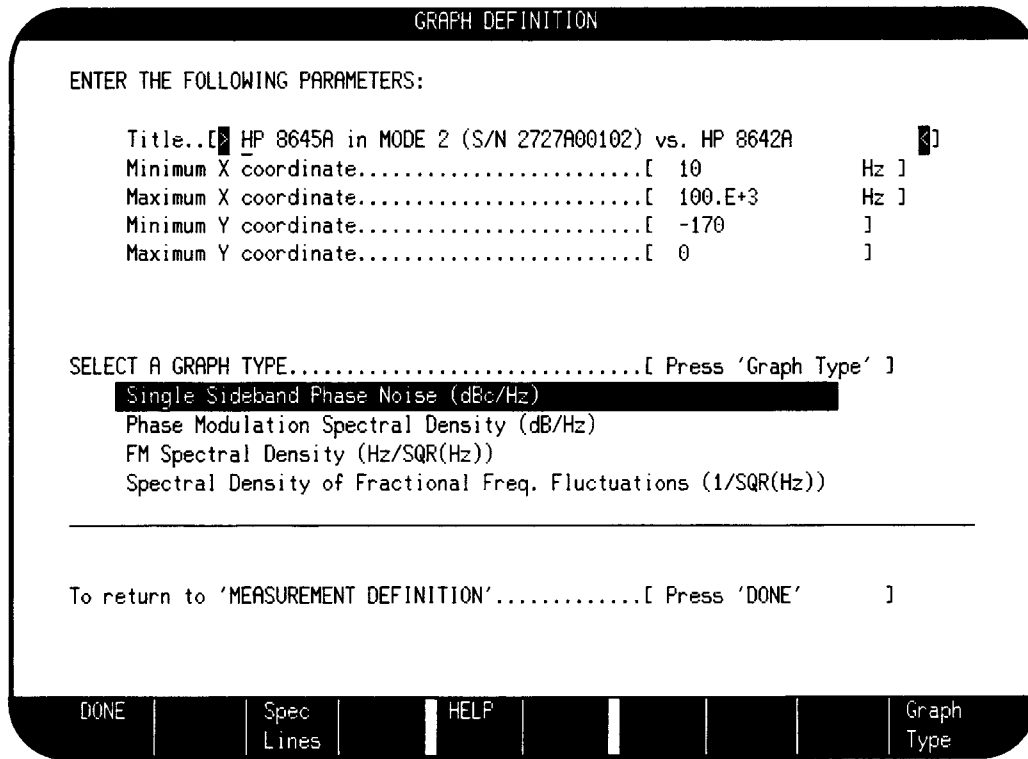

Figure 3-11. Graph Definition Menu
10. On the HP 3048A press the **Define Graph** softkey to obtain the Graph Definition menu. Set the graph parameters and graph type as shown in figure 3-11. Change the title as appropriate for your particular setup. (You may wish to include the serial number of the device under test for example. Note that date, time, and carrier frequency information will automatically appear on the measurement result graph.) When done, press the **DONE** softkey.